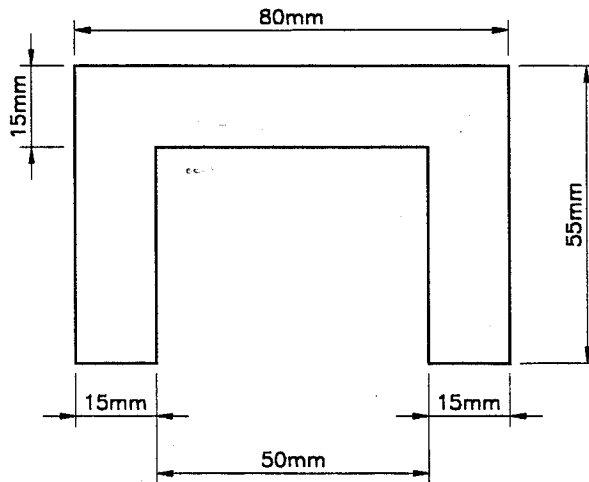

Figure 5
5. Figure 5 shows the vertical cross section of a beam which is subjected to a vertical shear force of 30kN. Draw, to a suitable scale, a diagram showing the distribution of shear stresses through the depth of the section.